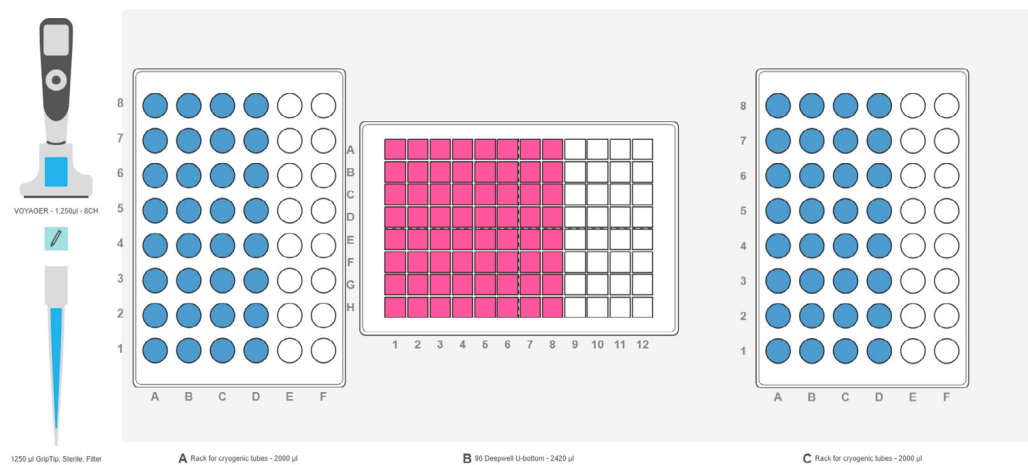

Figure 2: Set-up for transferring samples from cryogenic vials to 96 deep well plate.
| Deck position A: | INTEGRA rack for cryogenic vials containing 32 samples (1-32, Figure 2 , blue). |
| Deck position B: | Empty 96 deep well V-bottom plate (Greiner Bio-One, Figure 2 , pink). |
| Deck position C: | INTEGRA rack for cryogenic vials containing 32 samples (33-64, Figure 2 , blue). |
Load 2 INTEGRA racks for cryogenic vials on to deck positions A and C, with 32 samples in each. Place an empty 96 deep well plate in landscape orientation on deck position B (**Figure 2**). Select and run the VIALAB program 'Tube_to_plate_transfer' on the VOYAGER pipette. The pipette transfers 1000 µl of each sample from the cryogenic tubes to the deep well plate. High accuracy and precision are ensured with 25 µl pre- and post-dispense. The tip travel function is used for both aspiration and dispensing to prevent contamination. The pipette tip does not go to the bottom of the tubes and plate, but is only immersed a few mm below the liquid surface, and moves the set distance down during aspiration and dispense to avoid contamination.
The majority of the buffer was aspirated using a VIAFLO 8 channel 1250 μ l electronic pipette at speed 3. To determine the dead volume in the reservoir, we carefully aspirated the rest of the foaming buffer using a VOYAGER 12 channel 50 μ l electronic pipette at speed 1 to ensure that no air entered the pipette tips. The tip spacing of the VOYAGER was set at 6.5 mm for the 10 ml reagent reservoirs and 9 mm for the 25 and 100 ml reservoirs. Results of the experiments are presented in **Table 1** and **Figure 2**.
Figure 2: Averages and error bars of residual liquid amounts (µl) after dispensing solutions of 10 % Tween 20 (left), 10 % SDS (middle) and 80 % isopropanol solution (right) with 300 µl standard GRIPTIPS® (N) and low retention GRIPTIPS (LR).